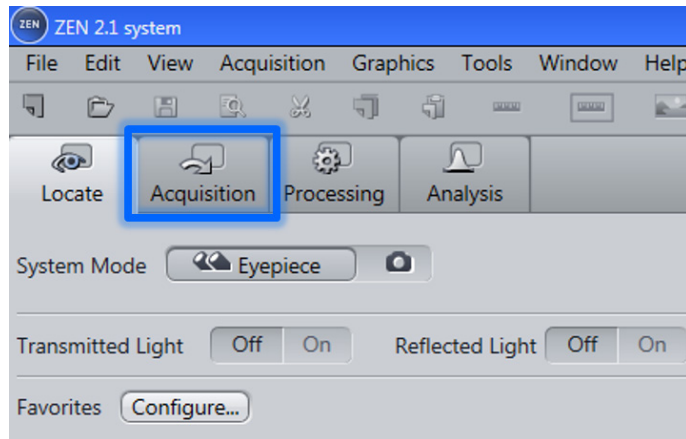

Fig. 16 Image acquisition tab
- In the left screen area, select the **Acquisition** tab (Fig. 16) to start configuration of image acquisition.